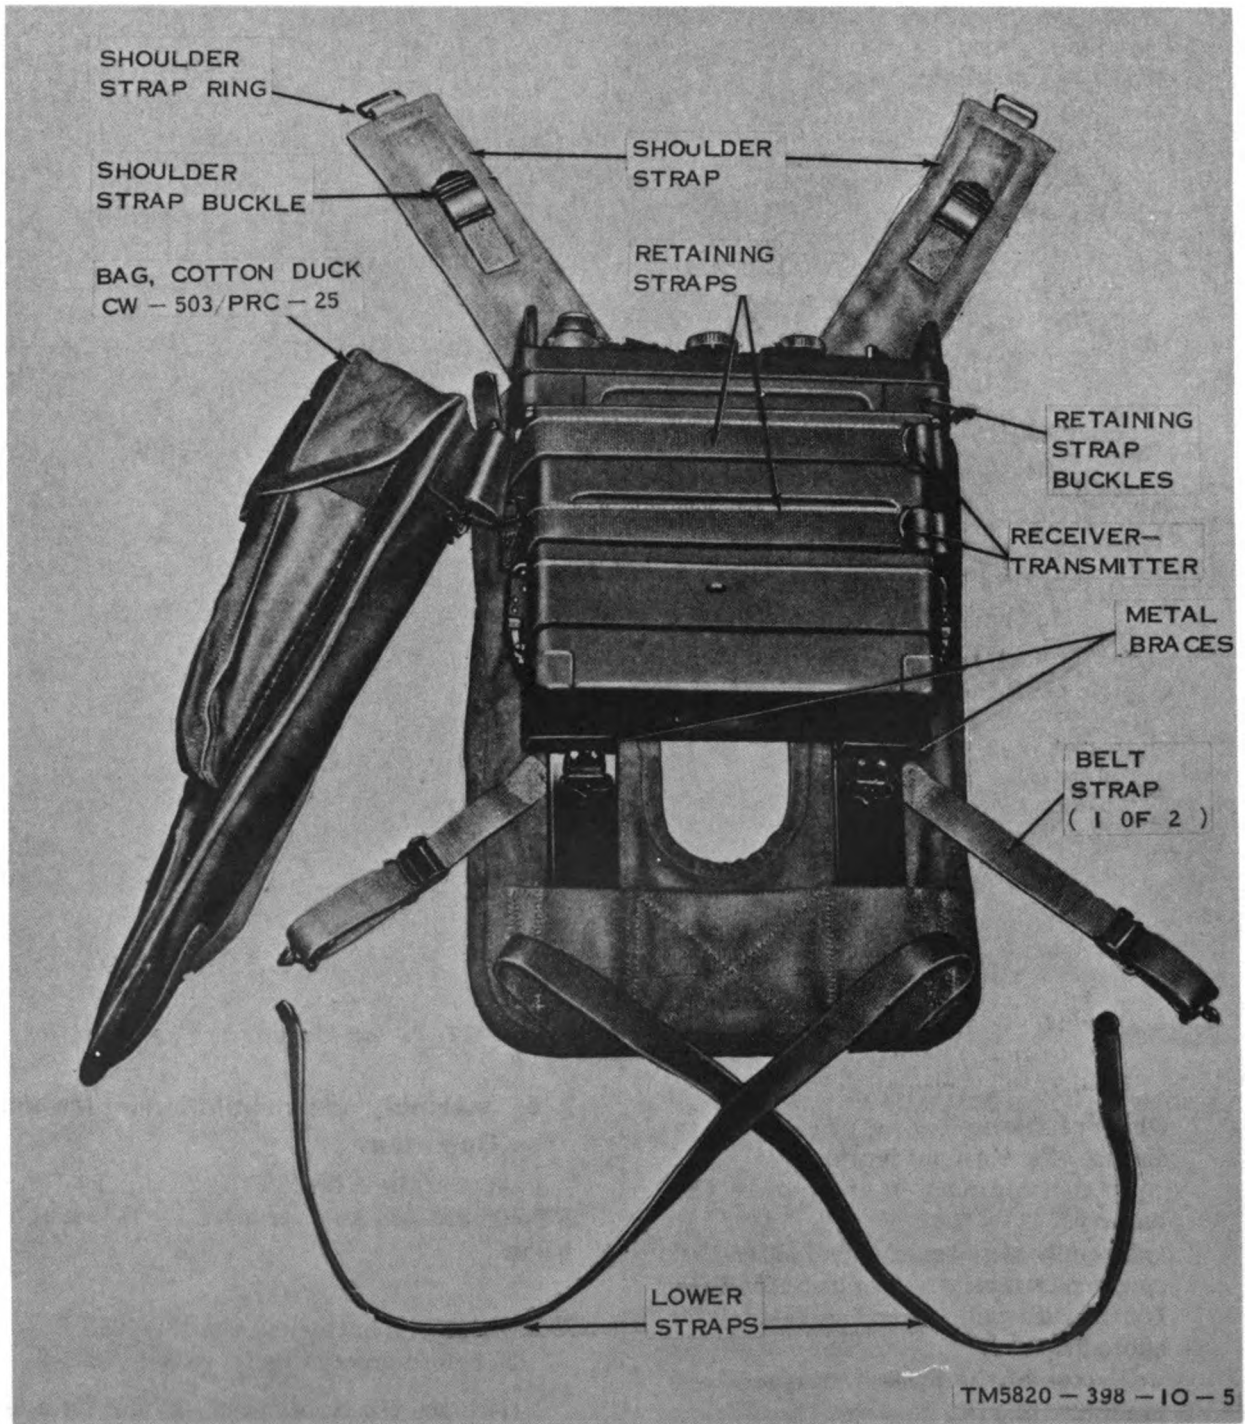
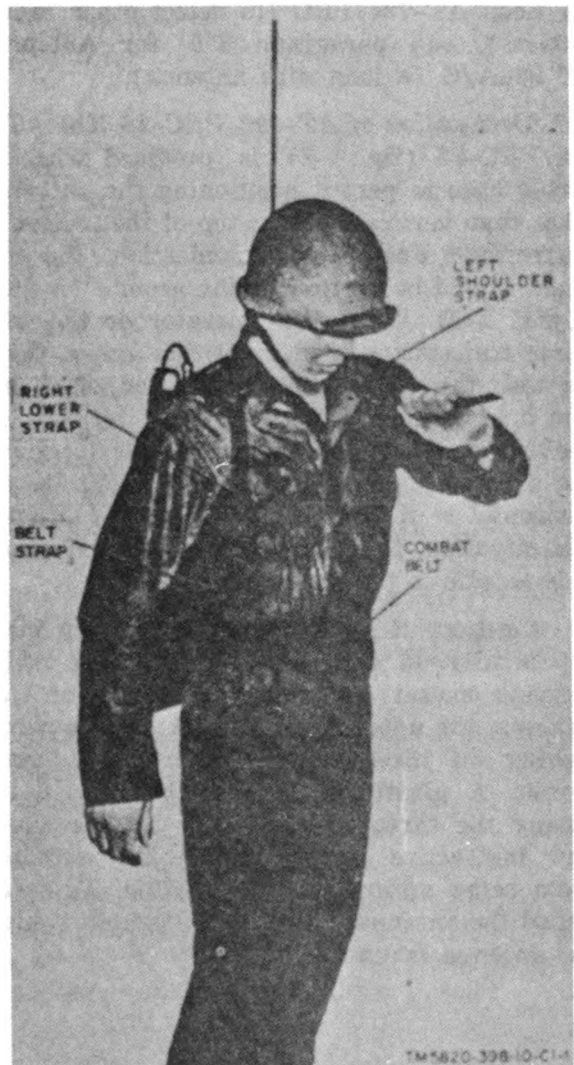

Figure 2-3. Installation of receiver-transmitter in ST-138/PRC-25.
Figure 2-4. Installation AN/PRC-25 for man-pack operation.
a. Attach the ST-138/PRC-25 (fig. 2-3) to the RT-505/PRC-25 as instructed in (1) through (4) below.
(3) Fasten the RT-505/PRC-25 to the ST-188/PRC-25 with the two retaining straps; feed the metal-tipped strap from below, through the center slot on the buckle and then down through the end slot in the buckle.
(4) Clip the CW-508/PRC-25 to the ST-188/PRC-25.
b. Mount the ST-188/PRC-25 (fig. 2-4) on the operator as follows:
(1) Install the desired antenna (para 2-6).
(2) Connect the handset to one of the AUDIO connectors on the front panel of the RT-505/PRC-25.
(3) Place the ST-188/PRC-25, with the RT-505/PRC-25 attached, on the operator's back. Place the shoulder straps over the operator's shoulders.
(4) Feed the end of the right lower strap through the right shoulder strap ring. Feed the metal tip of the strap from below, through the center slot in the buckle and then down through the end slot (fig. 2-3).
(5) Feed the end of the left lower strap through the ring of the left shoulder strap. Feed the metal tip of the strap from below, through the center slot in the buckle and then down through the end slot in the buckle (fig. 2-3).
(6) Hook the two belt straps to the combat belt.